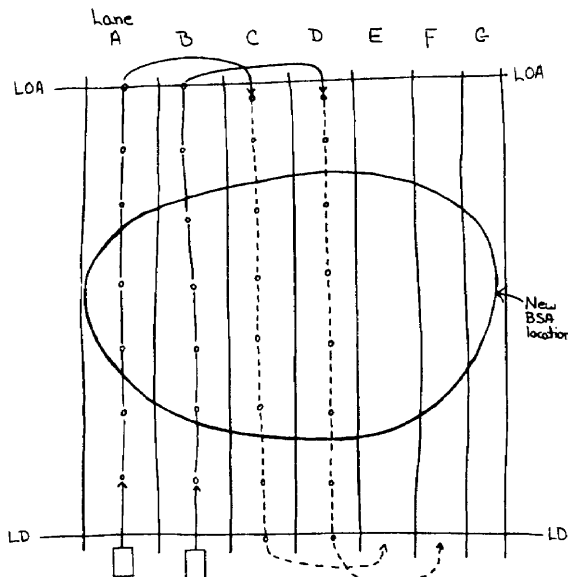

Figure 8-3. Lane search technique.
The lane technique is very similar to the zig-zag method and is used to locate contaminated areas. While the zig-zag technique can be used during route, area, and zone recon missions, the lane technique is used primarily during route recon missions. It could also be used for area recon of long narrow pieces of terrain, such as defiles. The recon element begins its search at the line of departure (LD) with an interval not exceeding 200 meters between vehicles. For narrow routes, the recon element has to move in a staggered column. Each vehicle moves along a line until reaching the LOA (see Figure 8-3). The vehicle crews monitor identification equipment for indications of contamination. Readings for contamination are taken every 500 meters.